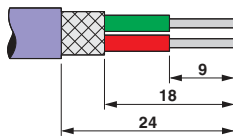

Figure 18 SUBCON-PLUS-PROFIB/AX with push-in spring connection
- Strip off the conductors (see Figure 18).